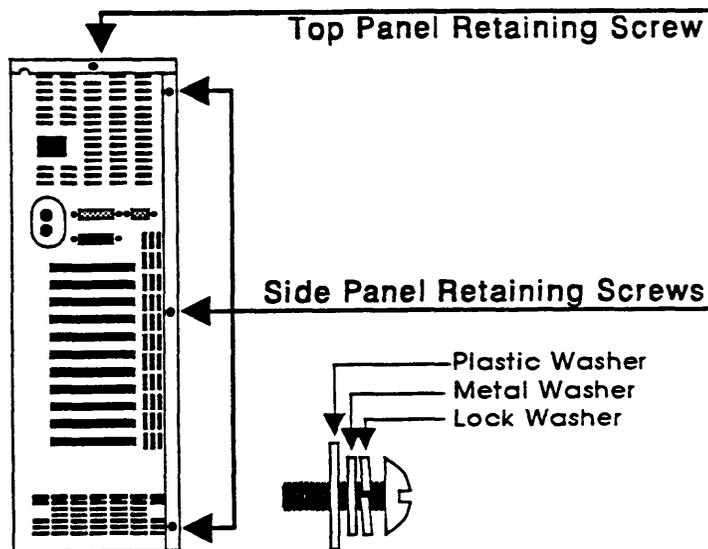

Figure 3-13. Side and Top Panel Retaining Screw Locations
2. Remove the three side panel retaining screws as shown in Figure 3-13.
If the washers come off of the retaining screws, they should be replaced as shown in Figure 3-13 with the lock washer first, then the metal washer, and finally the plastic washer.